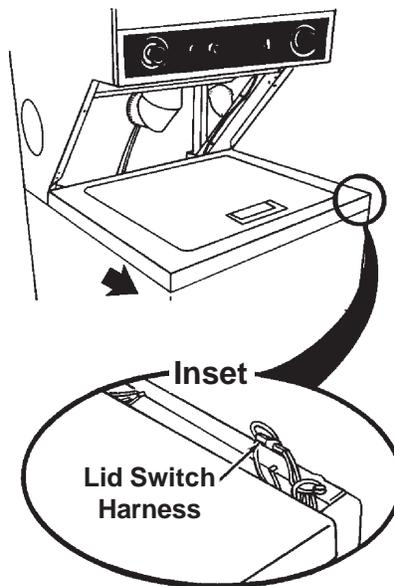

Fig. 5-8
4. Pull the washer top forward to disengage the top locks. (Fig. 5-8) Disconnect the washer lid switch harness (Fig. 5-8, Inset). Lift the washer top off the unit.